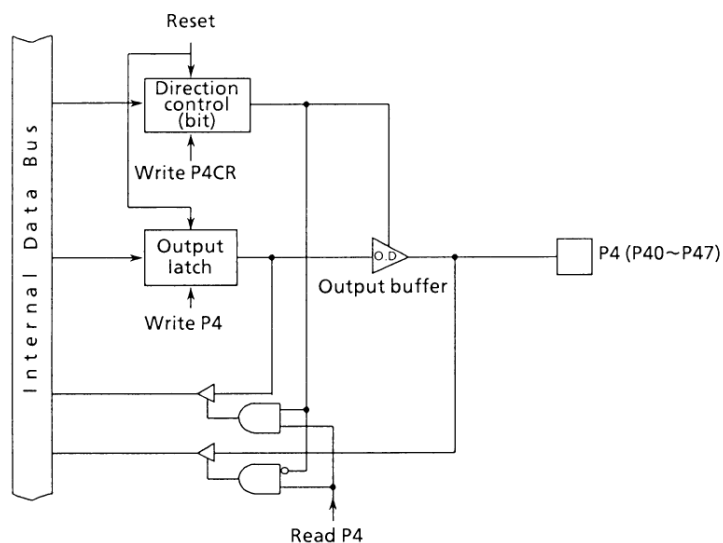

Figure 3.6 (6) A. Port 4
Port 4 is an open drain pin (as shown in Figure 3.6 (6) B): P40 ~ P43 function as an open drain sink, and P44 ~ P47